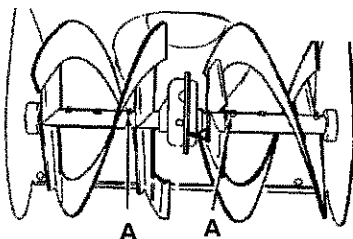

Figure 18
1. Lubricate the **Zerk fittings (A)** every ten hours with a grease gun.
2. Each time a shear bolt is replaced, the auger shaft **MUST** be greased. See Figure 18. See **To Replace Auger Shear Bolt** in the Service and Adjustment section.